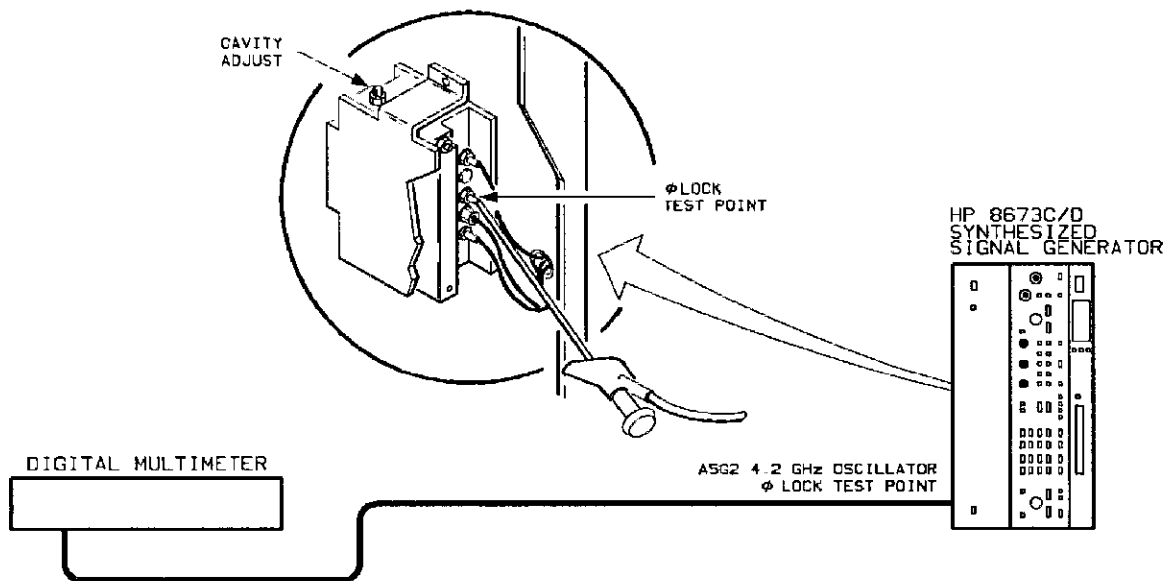

Figure 5-29. 4.2 GHz Oscillator Adjustment Test Setup
1. Connect the voltmeter to TP1/4 LOCK on A5G2 oscillator assembly. See figure 5-29. A convenient test clip for this is HP Part No. 1490-0025, which has a 4-inch probe.